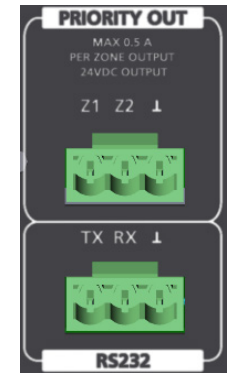

Figure 9. Priority Out & RS232
1. See Figure 9. Connect the 3-pin Euroblock to the override relay in any in-line volume controls wired in the loudspeaker line for Zones 1 and/or 2, as required.
1. See Figure 9. Connect an external device to the PREZONE2 via the RS232 connection. RS232 serves as a text command interface with the following port parameters: